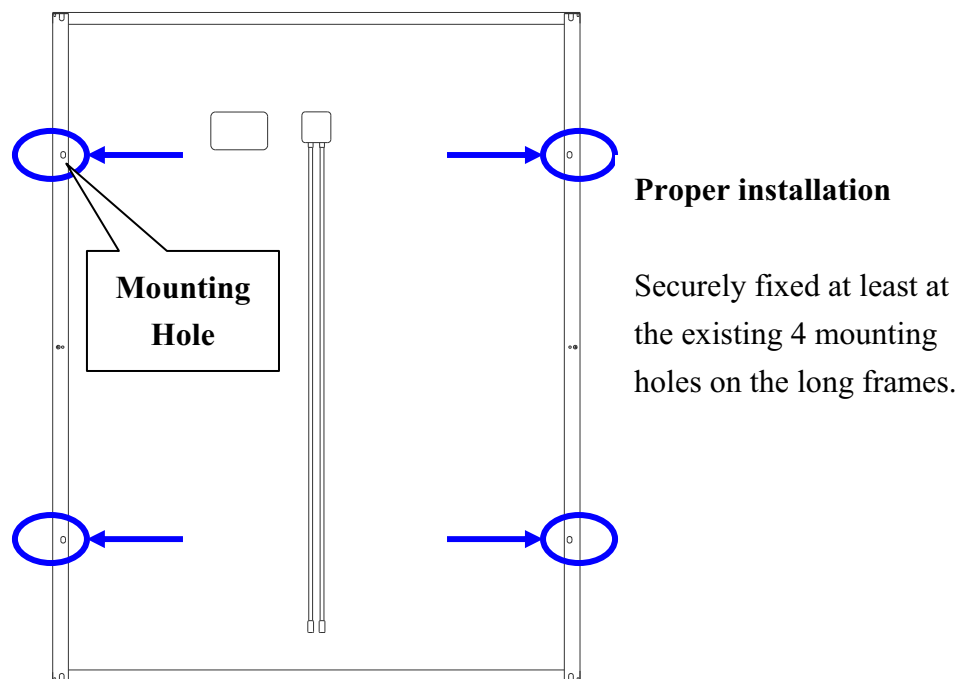

Figure2 : Valid mounting points of the PV module on the long frames.
- PV modules need to be securely fixed at least at the existing 4 holes on the long frames as illustrated in Figure2.